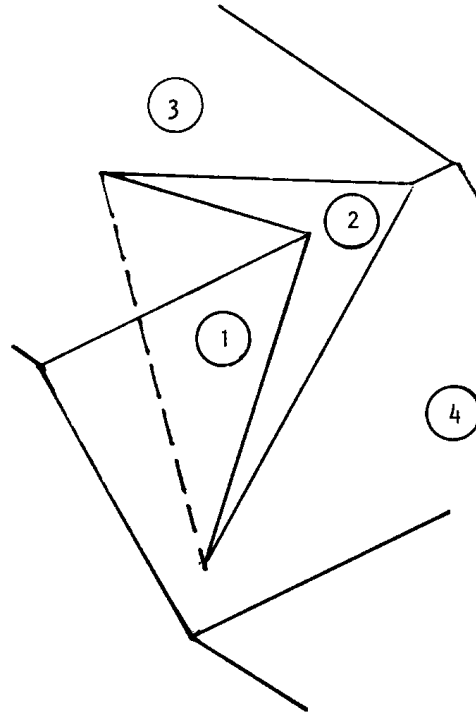

Figure 1-2: Situation where wedge is formed, and one plane overlies the other.
- Allowance has been made for one of the planes overlying the other (this is illustrated in Figure 1-2)